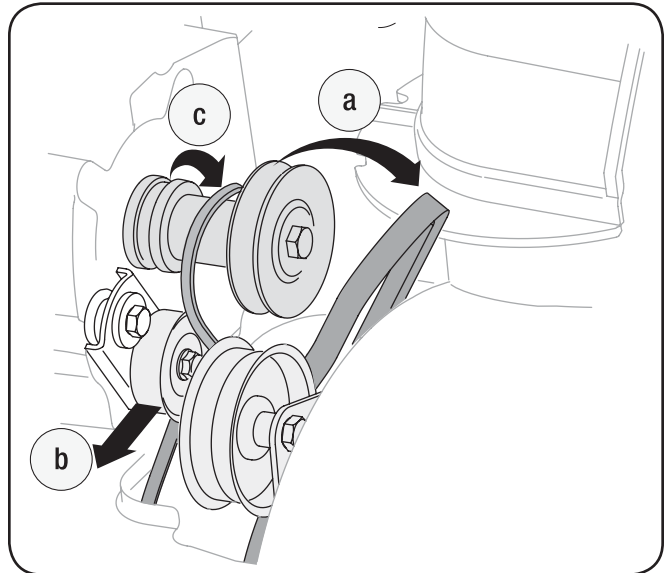

Figure 7-6
- Remove the belt as follows. See Fig. 7-6: